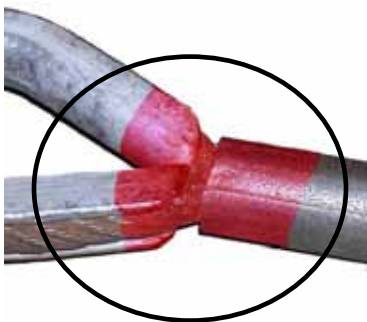

Figure 1. Painted swage.
- b. Inspect swage and wire rope eyes for slippage. Swage termination shall be flush with the swage collar and extend no more than 0.125 inch from the swage collar. Slippage is indicated by the exposed or exposed and unpainted wire rope between the thimble and swage. See Figure 1. If slippage has occurred, dispose of the longline. See H. Salvage.